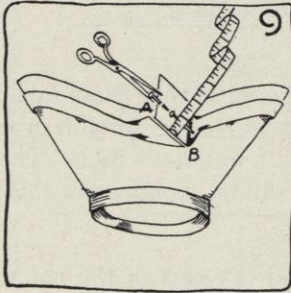

FIG. 9.
- (1) Carefully pin each bias end toward the point where you want to put the seam and stretch each a little (see Figure 9).
- (2) Fold bias over, pin, allow $\frac{3}{4}$ inch for a seam and pin, as shown in Sections 3 b (1) and (2), page 87. (See Figures 3 and 4 A, page 87, also see line A B in Figure 9.)
- (3) Before cutting for seam, show your work to your teacher to see if it is correct.
- (4) Cut on line of pins (see Figure 9).